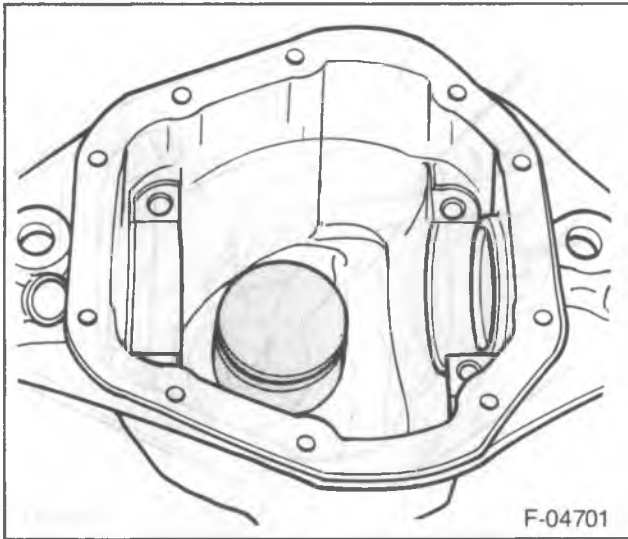

Figure 63—Master Pinion Block
2. Install D-120 or D-137 to the pinion bore (figure 63).